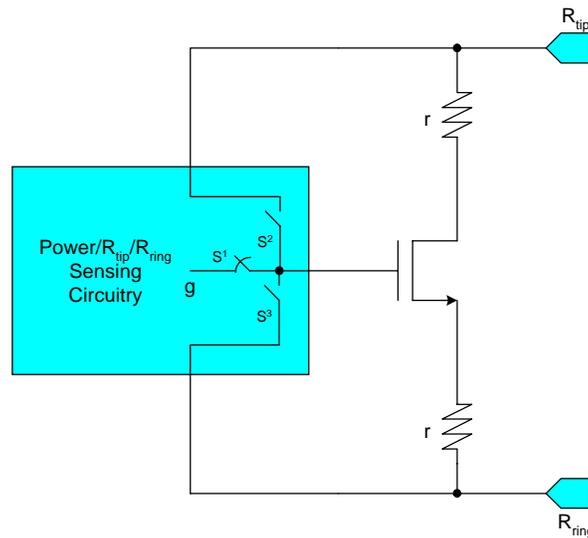

Figure 2 Simplified Block Diagram of the Receiver Inputs
The receiver inputs were designed so that during a power failure the receivers will not load or short the active input drivers on other line cards. Figure 2 is a simplified block diagram of the receiver input drivers of the XRT83SL3X/L3X. The gate (g) of the transistor is controlled by a patented sensing circuit. The sensing circuit has two purposes. (1) The circuit senses the power supply and (2) senses R_{tip} and R_{ring} . In normal operation, S^1 is closed and S^2 , S^3 are opened. When a power failure occurs, S^1 opens causing g to be disconnected from the gate of the transistor. Depending on the values present on R_{tip} and R_{ring} , S^2 or S^3 will be closed allowing for the transistor to be turned off. For example: If R_{tip} is greater than R_{ring} , S^3 is closed and S^2 is opened. This allows an open path between R_{tip} and R_{ring} and provides for a high impedance node. The reverse is true when R_{ring} is greater than R_{tip} .